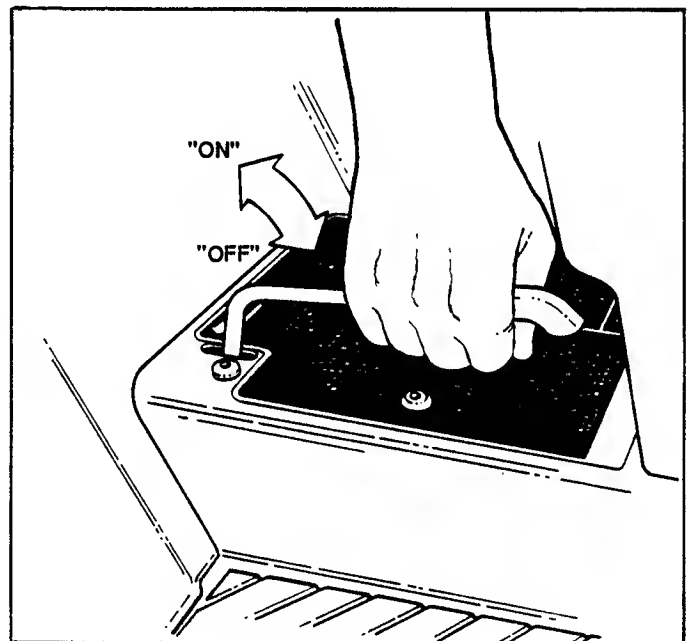

FIGURE 10A
START MOWER BLADE by pulling BLADE CONTROL LEVER "UP" to "ON". See Figure 10A.
3. Push BLADE CONTROL LEVER downward to "OFF" position. Refer to Figure 10A.